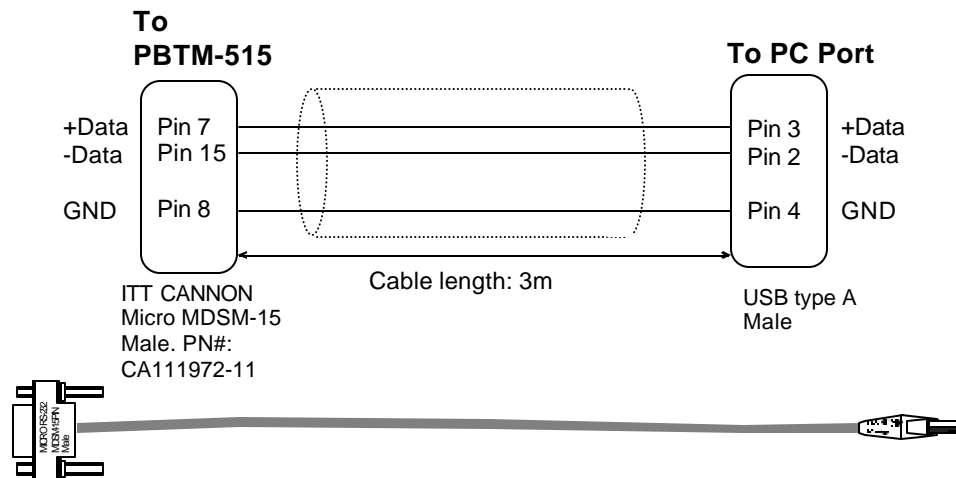

Figure 2.6 USB cable for the PBTM-515
- PBTM-515** Connect the special USB cable for the PBTM-515, from the serial port on the front panel of the PBTM-515 to a free USB port on the PC. The cable is shown in Figure 2.6.